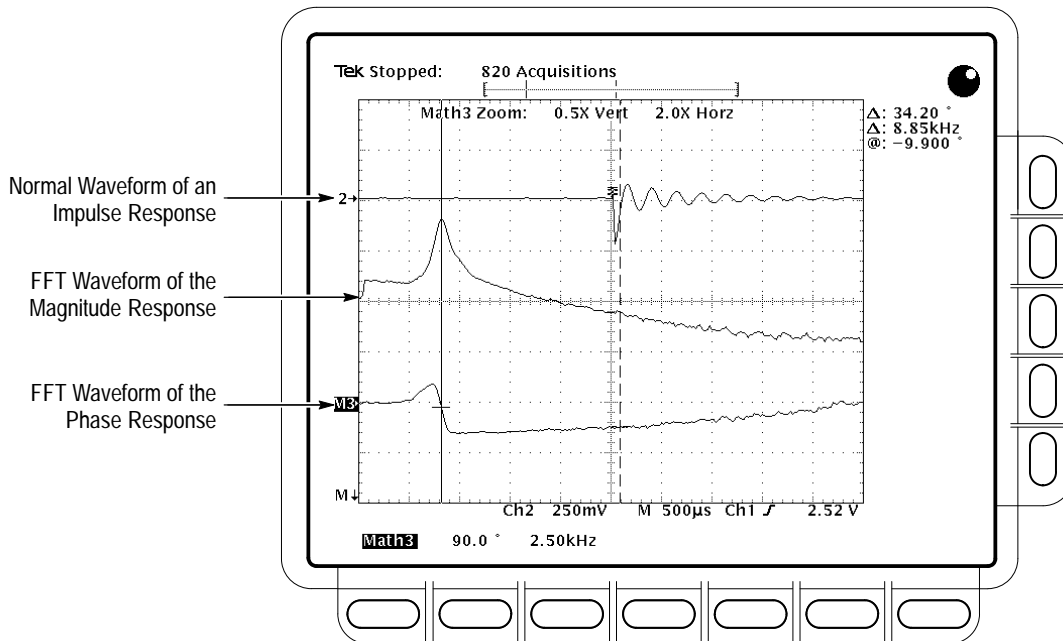

Figure 3-86: System Response to an Impulse
The resulting waveform is a display of the magnitude or phase angle of the various frequencies the waveform contains with respect to those frequencies. For example, Figure 3-86 shows the untransformed impulse response of a system in channel 2 at the top of the screen. The FFT-transformed magnitude and phase appear in the two math waveforms below the impulse. The horizontal scale for FFT math waveforms is always expressed in frequency per division with the beginning (left-most point) of the waveform representing zero frequency (DC).